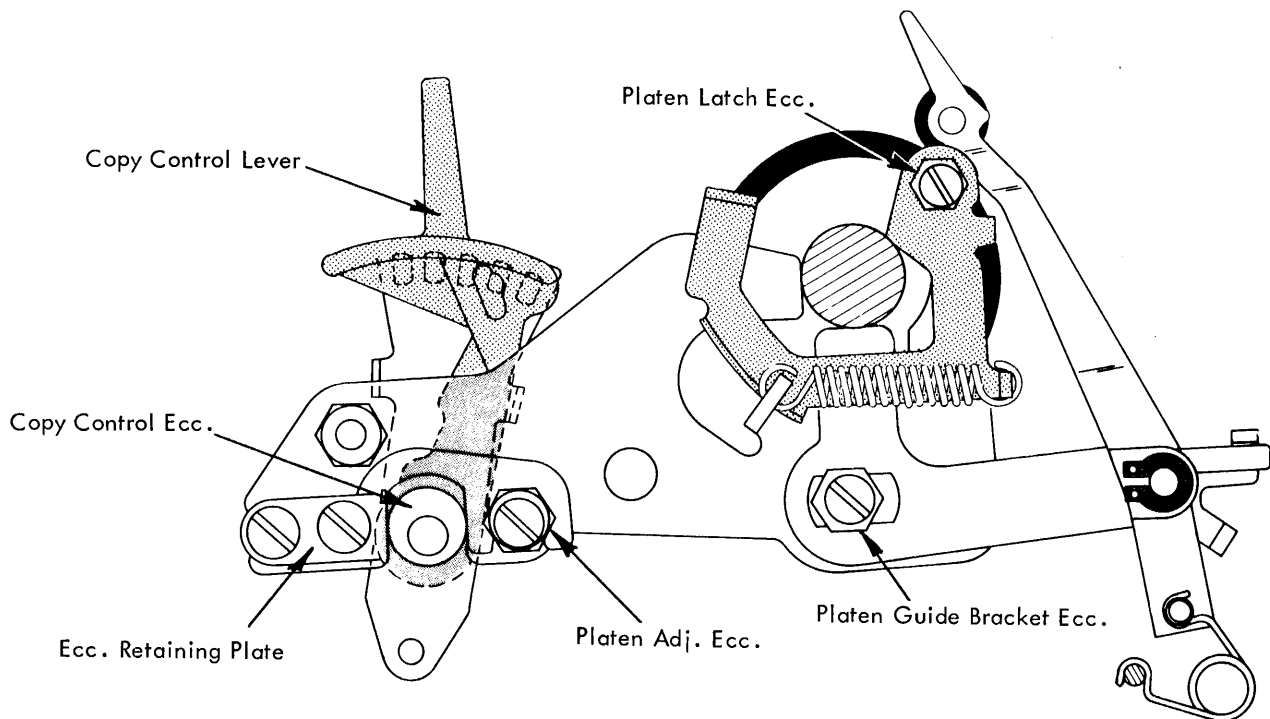
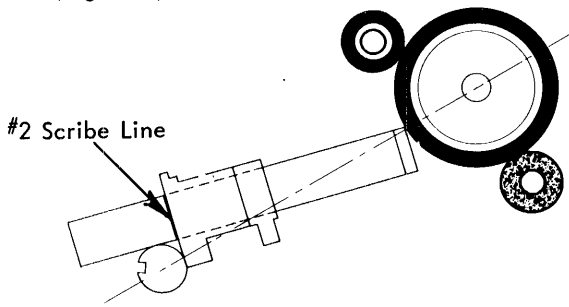

FIGURE 133. Copy Control Mechanism
FIGURE 135. Front to Rear Platen Adjustment
eccentrics should be vertical (Fig. 133). Adjust the copy
between the eccentrics and the retaining plates (Fig. 133).
this condition (Fig. 133). The high part of the eccen-
- b. Platen Front to Rear - With the head of the Hooverometer set at the #2 scribe line, the tool should just span the distance between the platen and the print shaft as illustrated in Fig. 135. Adjust the platen adjusting eccentrics to obtain this condition (Fig. 133).